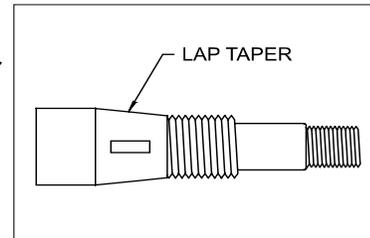

Fig. 1 Crankshaft
***The taper on the crankshaft (See Fig. 1) must match the taper in the Clutch Drive Hub or the Clutch will not fit securely.***